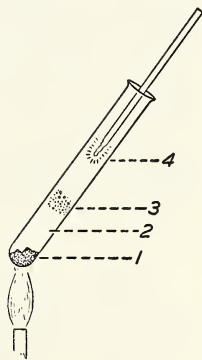

Fig. 22. Heating mercuric oxide.
1. Place about as much mercuric oxide as will lie on a ten cent piece in a small Pyrex test-tube (*Technique 8*). Hold the test-tube as in Figure 22, and heat gently, keeping the end containing the solid in the flame. After heating for a very short time, remove the test-tube from the flame and allow it to cool.
2. Continue to heat the mercuric oxide, increasing the temperature until it is being strongly heated. Lower a glowing wood splint into the test-tube slowly, until it almost touches the material in the bottom of the tube, and just as slowly, withdraw it. For a convenient reference, the accompanying diagram (Fig. 22) is numbered.
Copy Figure 22 in your notebook.
3. When mercuric oxide is heated, **decomposition** takes place. When mercuric oxide is formed, the action is called **combination**. Compare the temperatures at 1 and 3 (Fig. 22), and draw a conclusion as to which is the lower temperature, the temperature of decomposition or the temperature of combination.